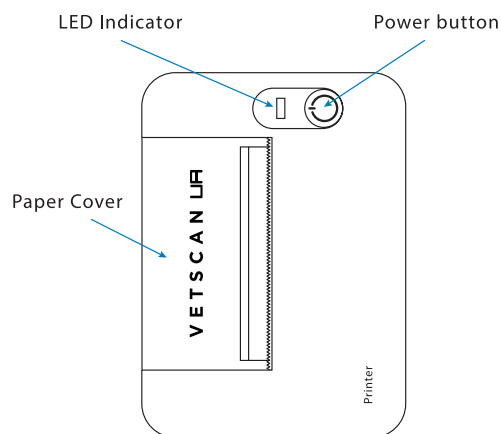

Fig. 3 UA Printer
- UA Printer (Fig. 3)
- Check Strips (2) –Strips for dry-use only verification of the instrument function (in plastic tube)